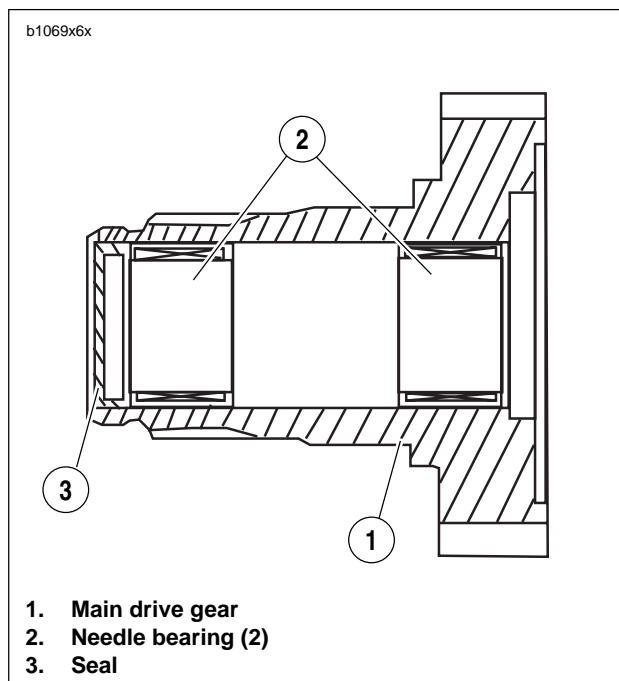
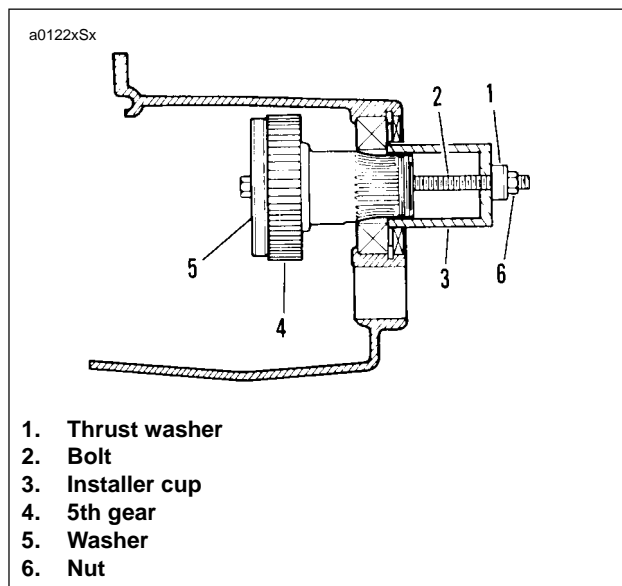

Figure 6-37. Main Drive Gear Assembly
Figure 6-41. Main Drive Gear Installation
3. See Figure 6-37. From inside case tap out seal at end of mainshaft 5th gear. Discard seal.
- See Figure 6-41. Use MAIN DRIVE GEAR REMOVER AND INSTALLER (Part No. HD-35316-A) for assembly.
- Take bolt (2) and place washer (5) followed by main drive gear (4) over end of bolt.
- Insert threaded end of bolt (2) through installer cup (3) and thrust washer (1).
- Thread nut (6) onto end of bolt (2). Tighten nut (6) until shoulder on gear (4) bottoms against inner race of bearing.
- See Figure 6-37. Tap in **new** seal (3) at threaded end of 5th gear.